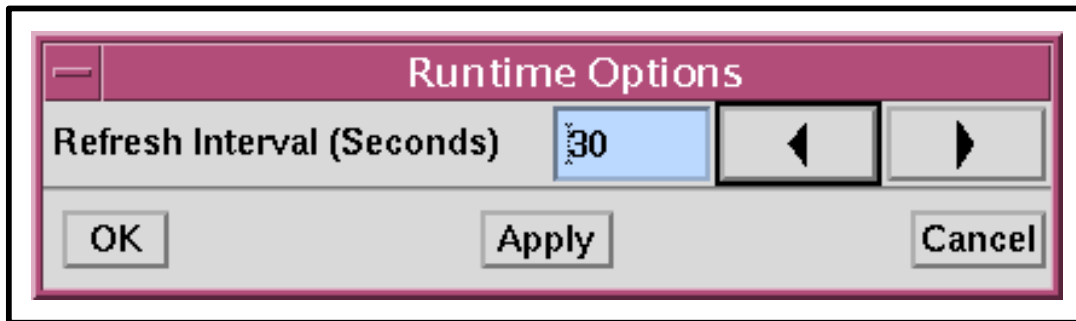

Figure 57. Runtime Options Dialogue Box for the JobScope GUI
- Figure 57 shows the **Runtime Options** dialogue box for the JobScape GUI.